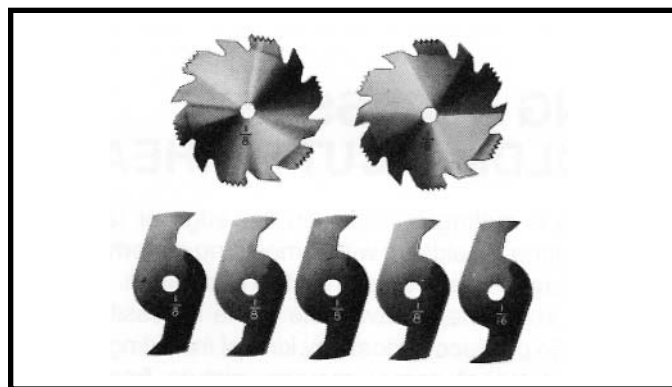
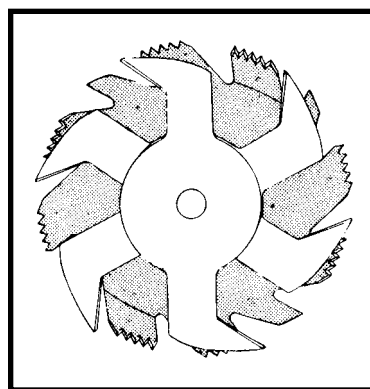
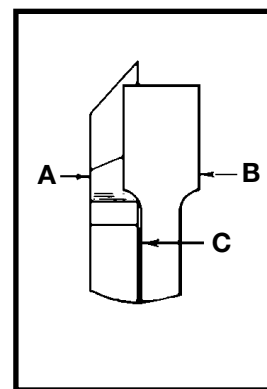

Fig. 136
Fig. 137
Fig. 138
Dadoing is cutting a rabbet or wide groove into the work. Most dado head sets are made up of two outside saws and four or five inside cutters, as shown in Fig. 136. Various combinations of saws and cutters are used to cut grooves from 1/8 to 13/16 for use in shelving, making joints, tenoning, grooving, etc. The cutters are heavily swaged and must be arranged so that this heavy portion falls in the gullets of the outside saws, as shown in Fig. 137. The saw and cutter overlap is shown in Fig. 138, (A) being the outside saw, (B) an inside cutter, and (C) a paper washer or washers which can be used as needed to control the exact width of groove. A 1/4 groove is cut by using the two outside saws. The teeth of the saws should be positioned so that the raker on one saw is beside the cutting teeth on the other saw.